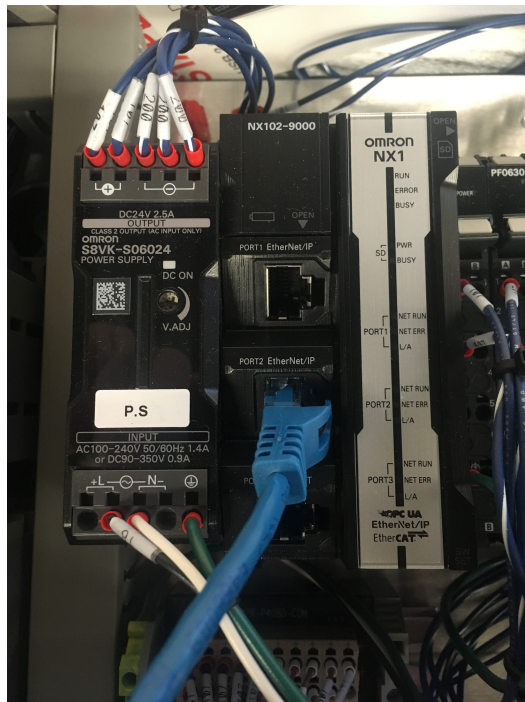

Figure 14: PLC Location - Closed
3. Open the latch to the PLC (Figure 14) to access the SD card.